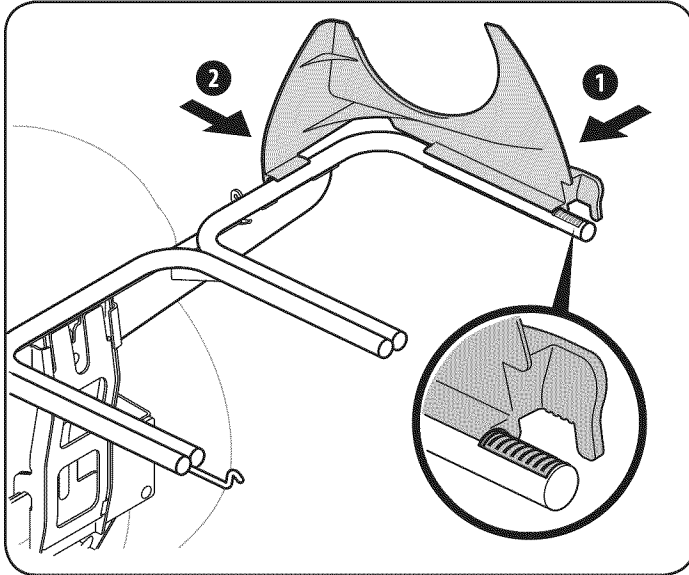

Figure 7
1. Snap the plastic upper chute support in place by first clipping the side portion onto the bagger support rail (1) with the edge of the snap feature **aligned with the red line**, as shown in the inset of Figure 7.
2. Snap the front side of the chute support to the rail (2), as shown in Figure 7.